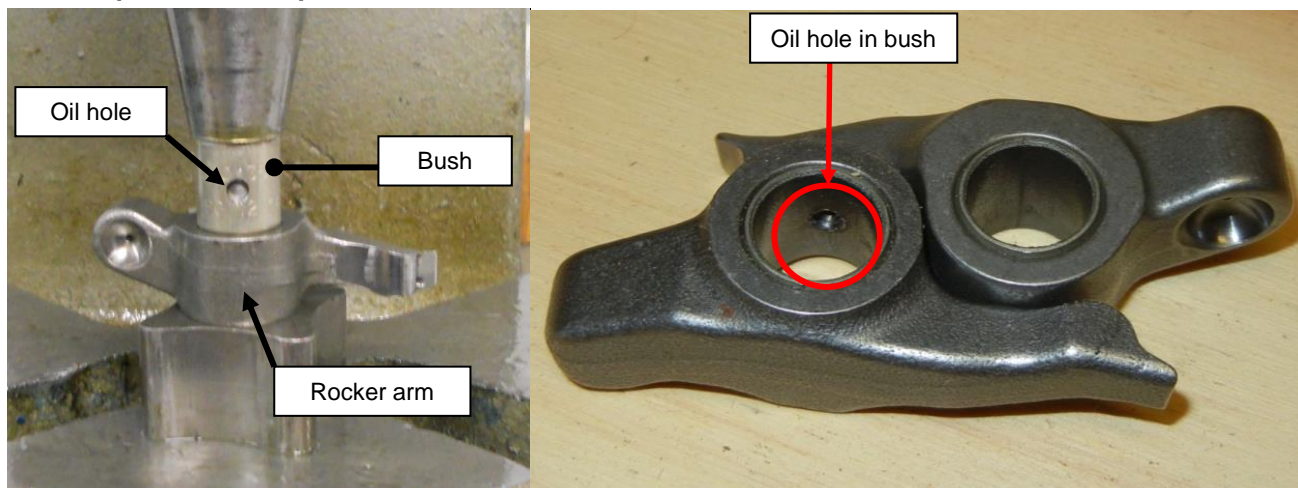

Figure 101 – Fitting Rocker Bush
- Use a hand press to push the old bushes out with the new bushes, making sure that the oil hole in each bush is oriented towards the bottom of the rocker as shown in Figure 101. Typically the inner size of fresh bushes is around 12.06mm.